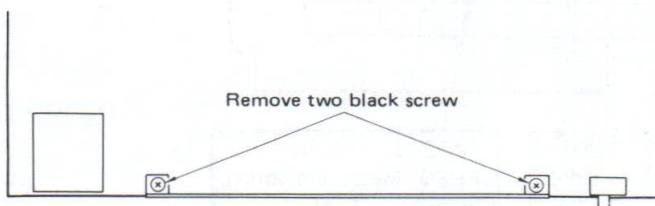

Fig. 2
- 6) Remove the two screws (black bind head, tapped, 3 x 8) shown in Fig. 2.